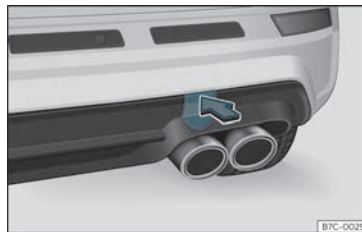

Fig. 41 On the right side of the rear bumper: remove the cover.
The housing of the screw towing eye is on the right side of the rear bumper behind a lid >>> **Fig. 41**.
- Press the upper side of the lid >>> Fig. 41 to unclip it.